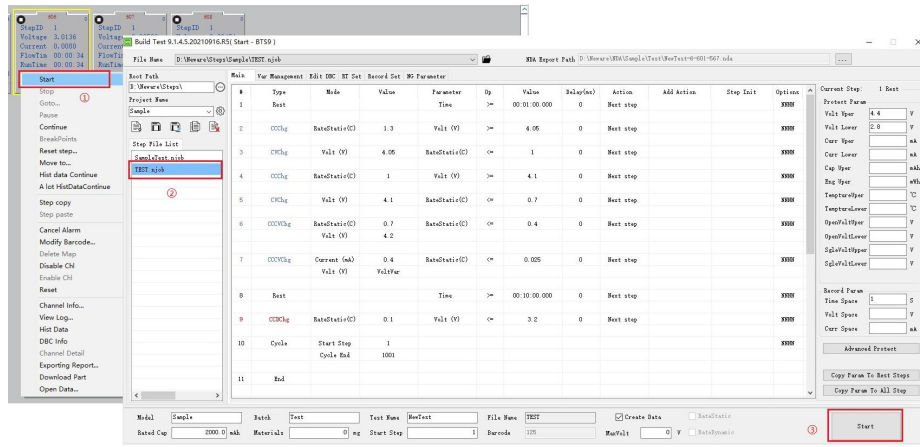

Figure 8-26 Start
1.)Right-click on the channel and click **Start**. In the step editor, select TEST.njob, and click **Start**, see Figure 8-26.